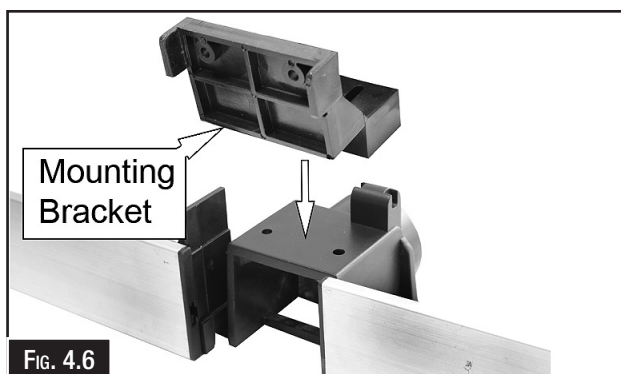

FIG. 4.6
1. Fit the mounting bracket to the central part of the main fence as shown in (Fig. 4.6).